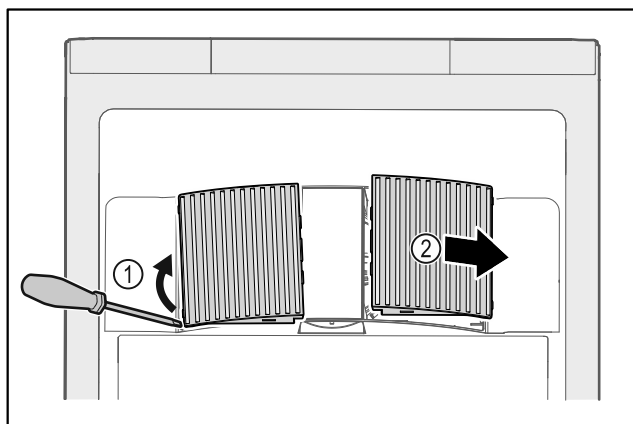

Fig. 161
- ▶ Carefully lever out fan covers from the side Fig. 161 (1) and remove towards the front Fig. 161 (2).